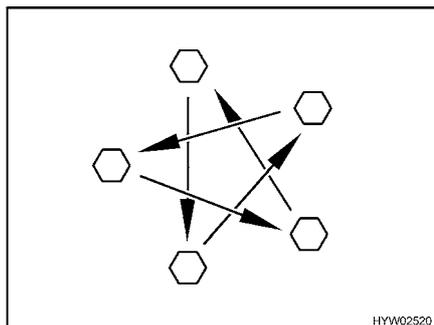

Fig. 210 Tighten the wheel nuts or wheel bolts cross-wise
- Check regularly that the wheel nuts or wheel bolts are firmly seated. Retighten the wheel nuts or wheel bolts of a changed wheel cross-wise (Fig. 210) after 50 km (30 miles). See section 13.5.2 for tightening torque.
- ▷ Tighten the wheel nuts or wheel bolts cross-wise (Fig. 210).